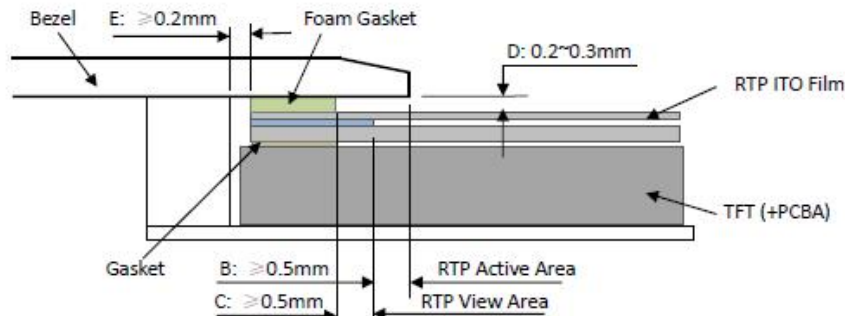

Figure 4
- It should bezel touching the RTP Active Area (A.A.) to prevent abnormal touch.It should left gab $D=0.2\sim 0.3\text{mm}$ in between. (Figure 4)
- 为避免面框直接压在动作区(A. A.)上造成误动作，面框与电阻触摸屏(RTP)之间应留有一定的空隙 $D=0.2\sim 0.3\text{mm}$ 之间。(附图 4)
(between the bezel and RTP).The suggested figures are $B \geq 0.50\text{mm}$; $C \geq 0.50\text{mm}$. (Figure 4)
- The bezel side wall should keep space $E = 0.2 \sim 0.3\text{mm}$ from the RTP. (Figure 4)
边缘到 V. A. 区的距离 $C \geq 0.50\text{mm}$. (附图 4)
- 在设计面框与 RTP 组装时, 应考虑到面框内侧与 RTP 外侧的间距 $E \geq 0.2\text{mm}$. (附图 4)